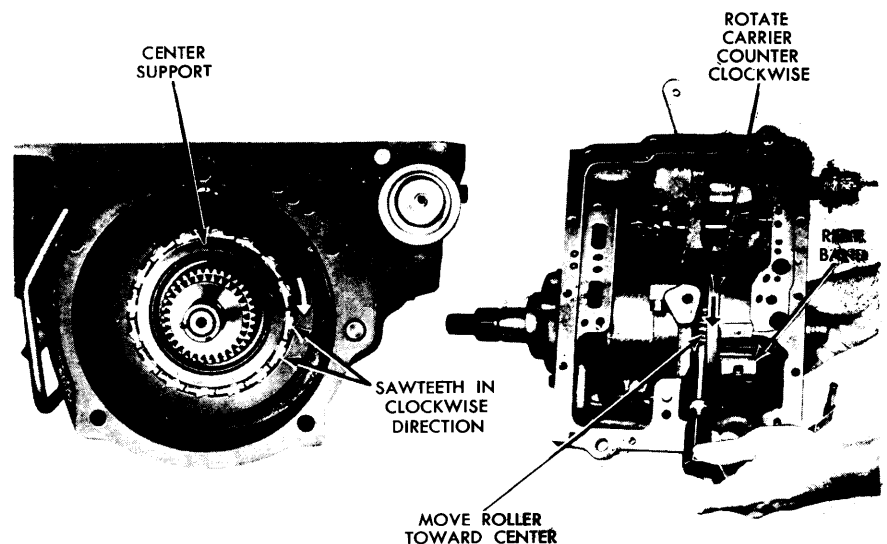

FIG. 50—Planetary Clutch Installation in Carrier—Using Center Support Not Chamfered
4. Install the planetary clutch on the center support with the "saw teeth" of the clutch cage pointing in the clockwise direction as viewed from the rear (Fig. 50). Make sure that all rollers are in the cage.
8. Some rollers may become cocked preventing their entry into the outer race. These rollers must be positioned individually with a small screwdriver by pushing the rear of the rollers toward the transmission and into the cam race (Fig. 50).